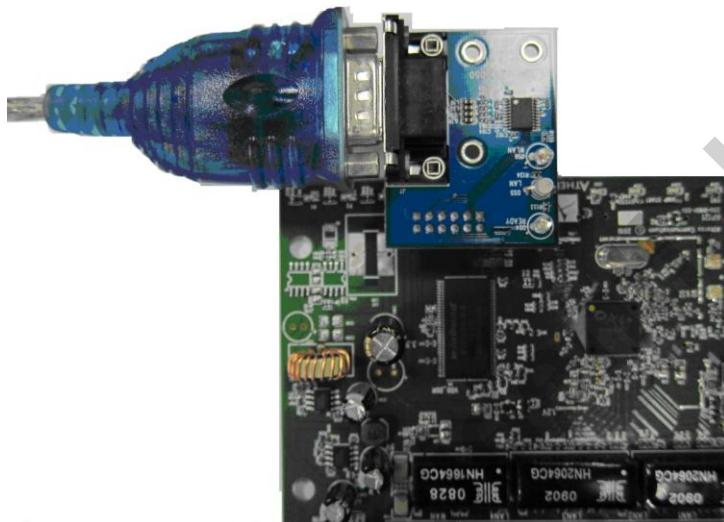

Figure 2 RS232 Adapter Orientation
1. Connect the RS232 adapter to the AP121-050 UART port. Match the non-sharp edge of the UART header to non-sharp edge of the RS232 adapter connector (see Figure 2 for correct orientation).